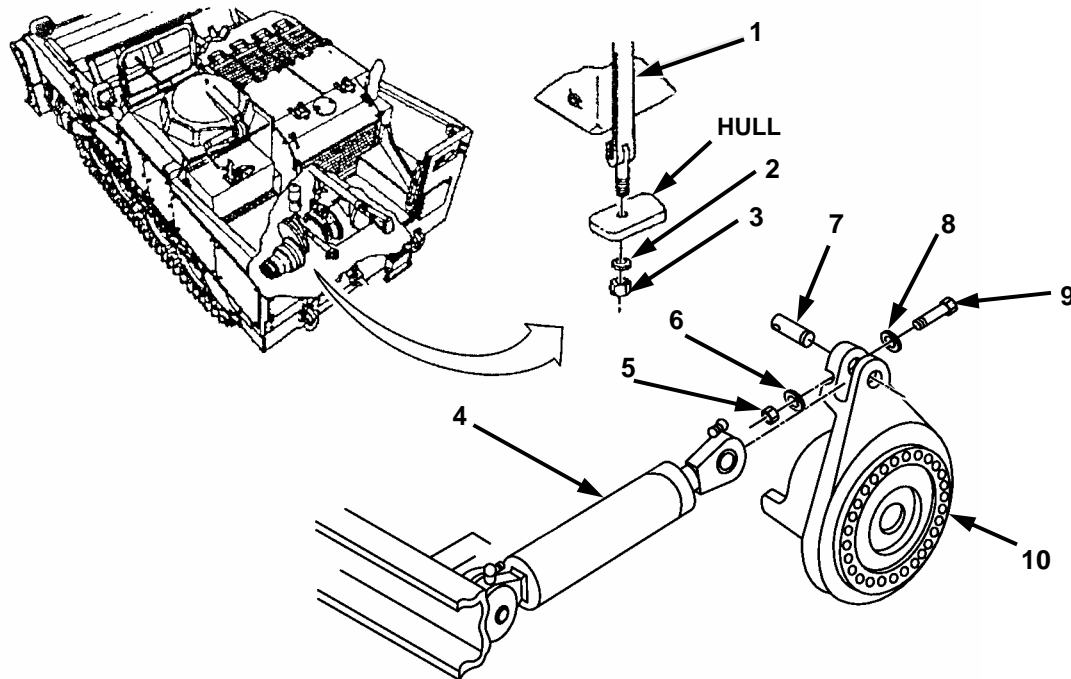

Figure 2-8. Track Adjusting Cylinder (2 of 3).
- d. Remove locknut (Figure 2-8, 3) and washer (2) from rear fuel tank strap (1) and hull, and move rear fuel tank strap away from hydraulic track adjusting cylinder (4). Retain parts for future use.